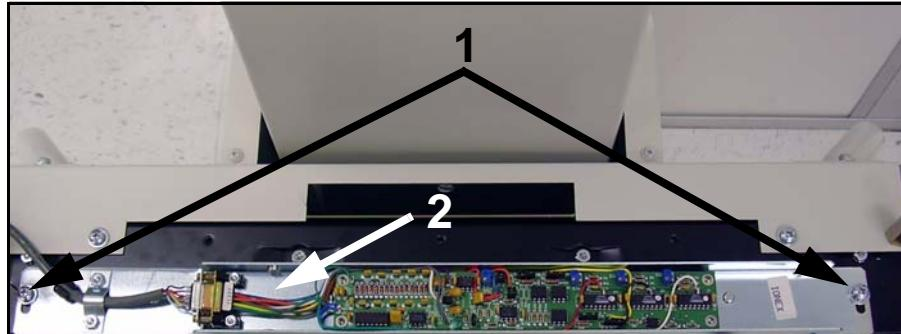

Figure 6-17. ION Chamber Mounting Screws
- 5 Unscrew ION chamber mounting screws (1 in Figure 6-17) and lift ION chamber (2) out of cabinet.